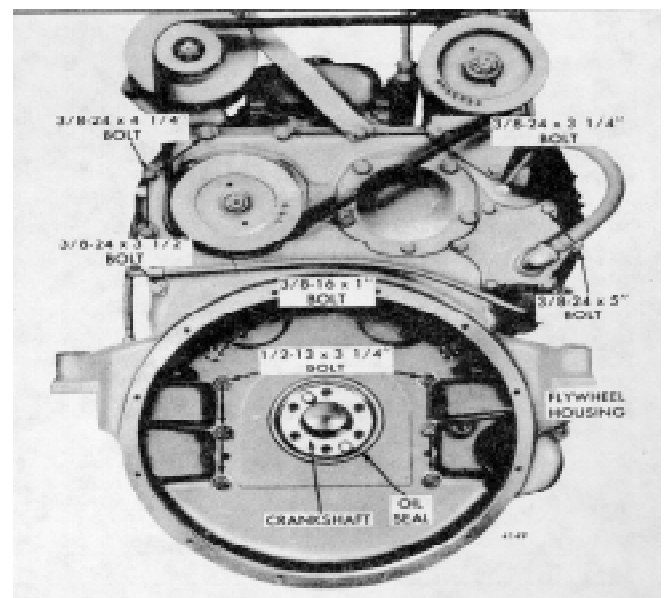

Fig. 1 - Typical Flywheel Housing Mounting
The flywheel housing (Fig. 1) is a one-piece casting, mounted against the rear cylinder block end plate, which provides a cover for the gear train and the flywheel. It also serves as a support for the starting motor and the transmission.
4. Remove the twelve attaching bolts inside of the flywheel housing bell which attach the housing to the idler gear hub, spacer and cylinder block. Remove the twelve remaining bolts around the upper portion of the housing and the two bolts which go through the rear end plate from the front and thread into the housing (Fig. 1).
6. Refer to Fig. 1 and install the six 3/8"-16 bolts with flat washers in the tapped holes of the idler gear hub and idler gear hole spacer, finger tight. Remove the pilot studs.